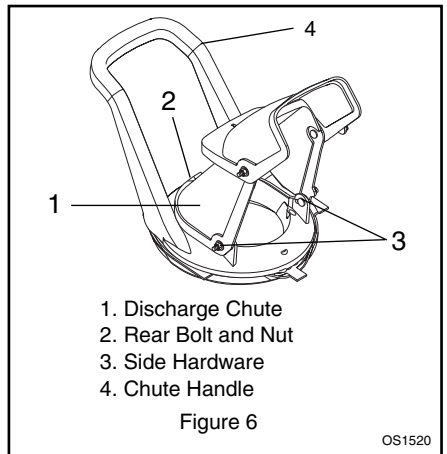

Figure 6
1. Remove bolt and nut from rear of discharge chute (Figure 6).